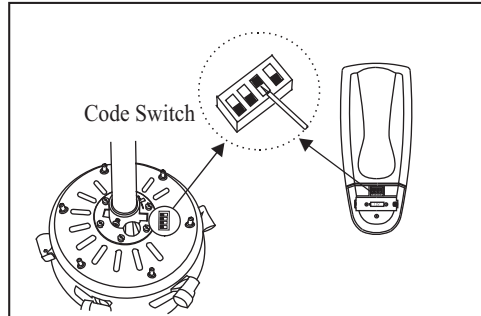

Figure 17
1. The receiver frequency selector is located on the top of the motor assembly plate as shown in Fig. 17.
2. The transmitter frequency selector is located in the battery compartment as shown in Fig.17. Each frequency selector has 4 switches, you may use any number of possible combinations but you must set each switch in the transmitter to match the same switch in the receiver.